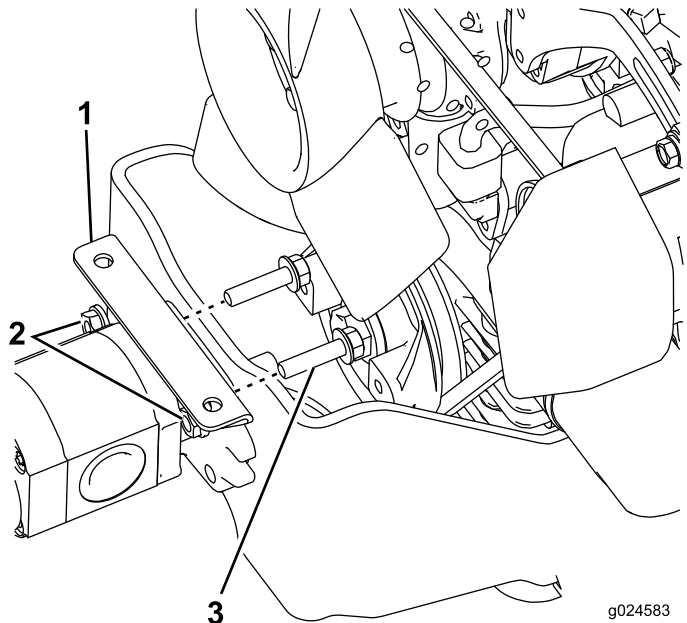

Figure 8
3. Remove existing bolts and install the fan guard bracket; refer to Figure 8.